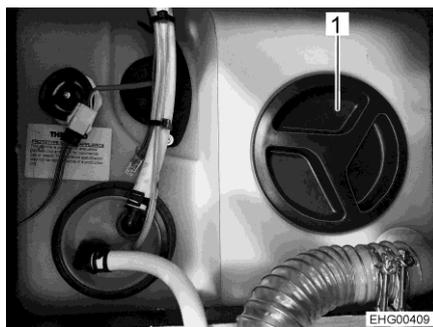

Fig. 153 Water tank, iNDUS system
- Remove the cap (Fig. 153,1) of the water tank.